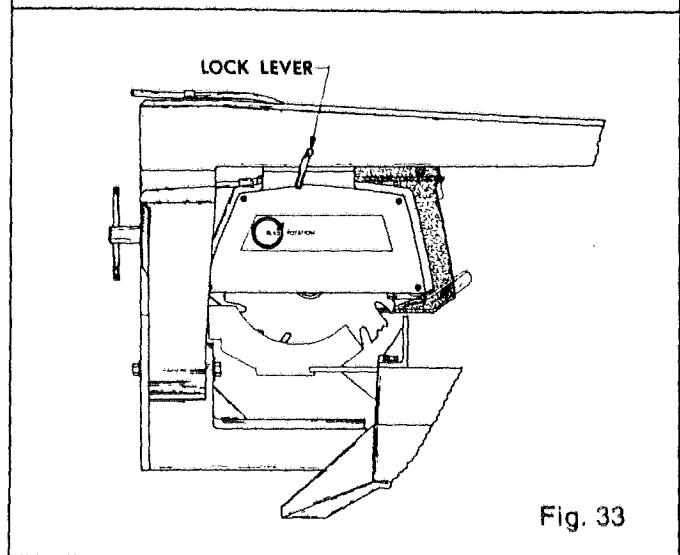

Fig. 33
1. Push saw head to rear as shown in Fig. 33.